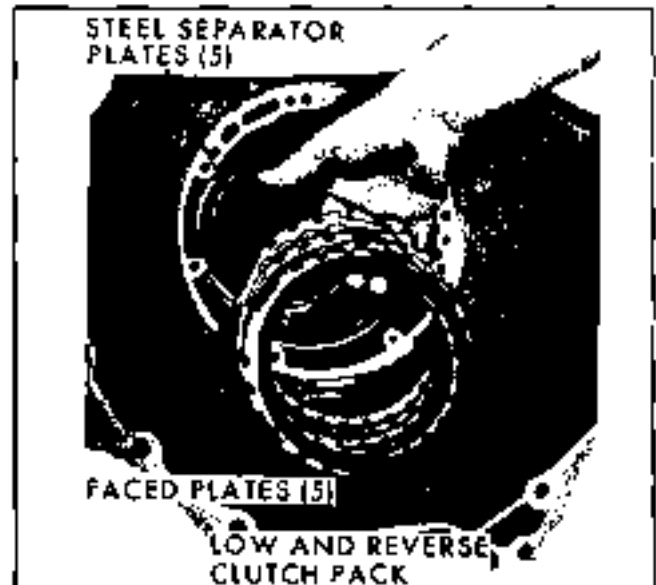

Fig. 7G-112 Installing Low and Reverse Clutch Pack (V-8 Model)
13. Install low and reverse clutch support retainer spring (Fig. 7G-32)
14. Install low and reverse roller clutch and support assembly into case, pushing firmly until support assembly is seated past the top of low and reverse clutch support retainer spring (Fig. 7G-31).